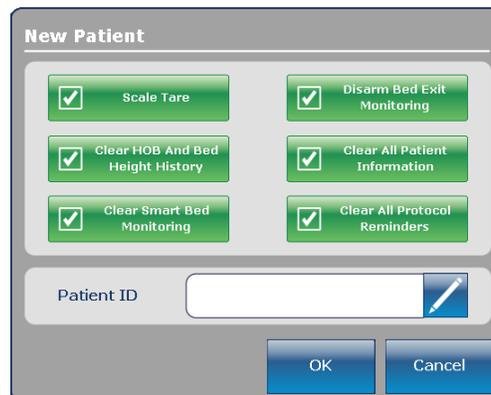

Figure 20: New patient
1. Tap the pencil (Figure 20 on page 37).
Display Patient ID: Displays the Patient ID. You can enter the Patient ID on the **New Patient** screen (Figure 20 on page 37).